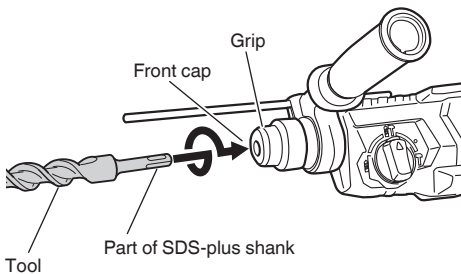

Fig. 1
4. Mounting the tool (Fig. 1)
- (1) Clean the shank portion of the tool.
- (2) Insert the tool in a twisting manner into the hole of front cap until it latches itself (Fig. 1).